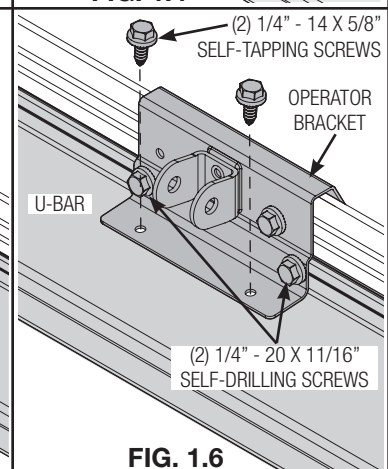

FIG. 1.6
Then attach (2) 1/4" - 14 x 5/8" self-tapping screws to the operator bracket, as shown in **FIG. 1.6**. Remove vice clamps.
NOTE: If you have a 9100 door, you can use two of the 1/4" - 20 x 11/16" self-drilling screw used to attach the u-bar instead of the 1/4" - 14 x 5/8" self-tapping screw when attaching operator bracket to u-bar, as shown in **FIG. 1.6**.